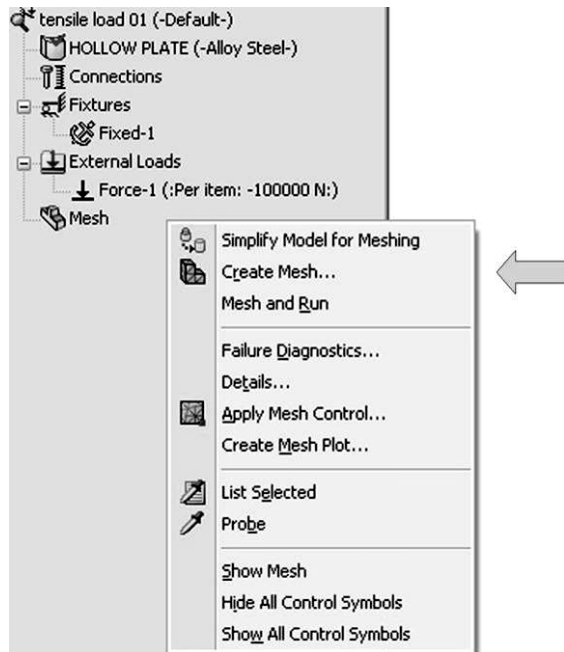

Figure 2-13: Mesh pop-up menu
Now, right-click the *Mesh* folder to display the pop-up menu (Figure 2-13).
*You can control the mesh visibility by selecting **Hide Mesh** or **Show Mesh** from the pop-up menu shown in Figure 2-13.*